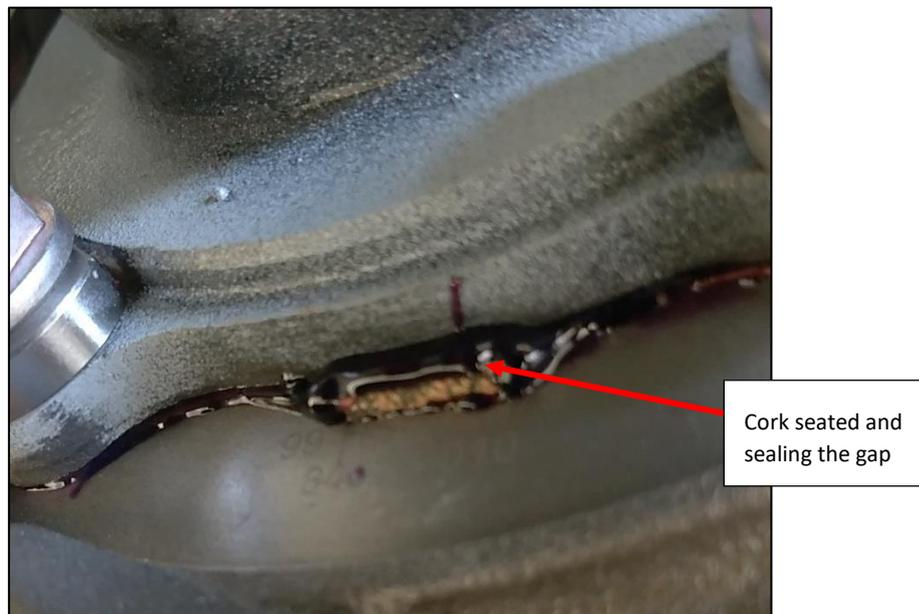

Fig. 20
- b. Apply Loctite® 515™ to the slot of the axle flange. When fitting make sure the cork fits correctly into the slot. See Fig. 20